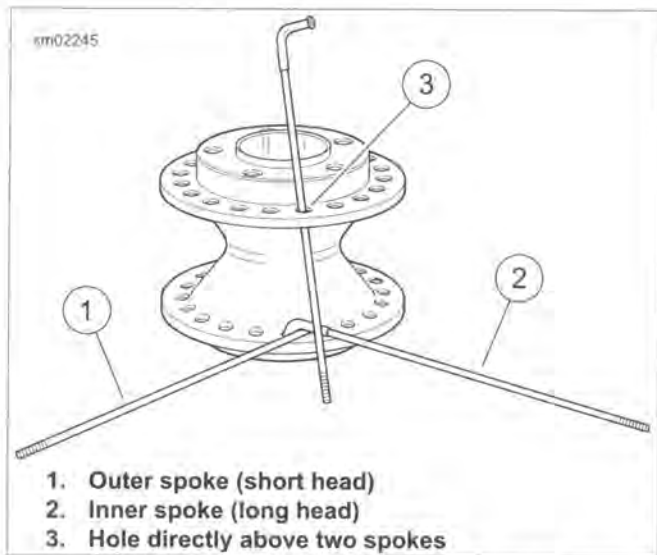
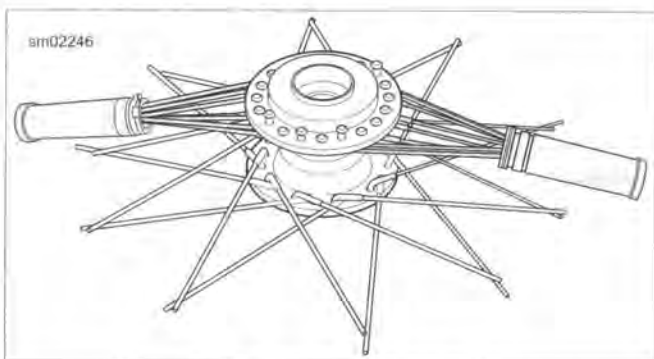
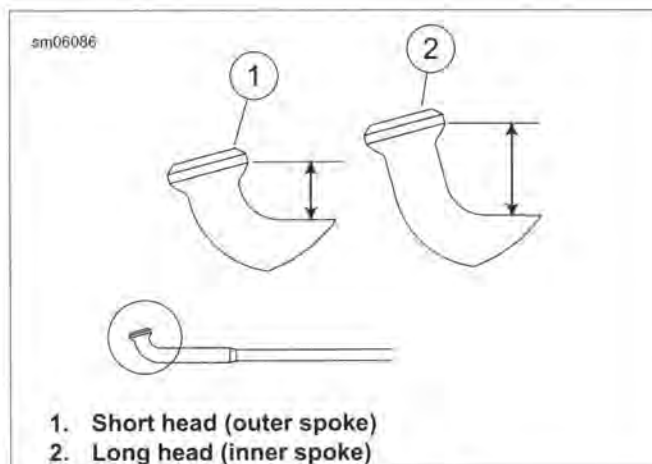
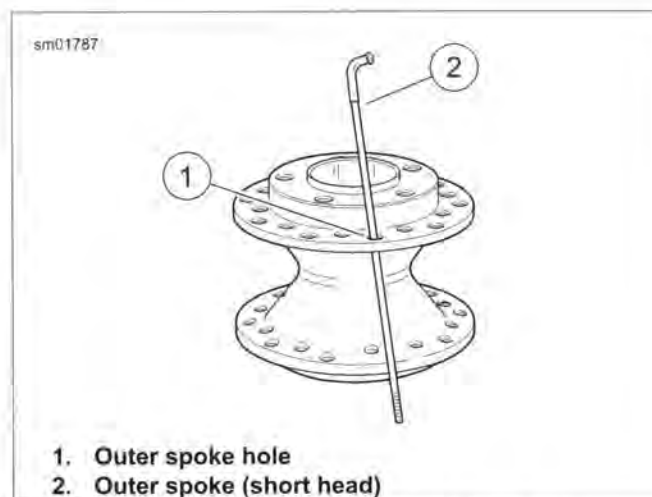

Figure 2-30. Lacing Single Row Wheel Hub
Figure 2-31. Bundling Top Spokes
Figure 2-34. Spoke Heads
Figure 2-35. Lacing Dual Row Wheel Hub
- See Figure 2-30. This procedure is valid for laced wheels that use a straight flange, single spoke hole circle hub regardless of rim style or diameter.
1. See Figure 2-34. Divide spokes into inner and outer groups.
- a. Inner spokes (2) have long heads.
- b. Outer spokes (1) have short heads.
3. See Figure 2-30. Place hub on bench with the primary brake disc side up. Insert one outer spoke (1) (short head) into any bottom flange hole and swing it clockwise. Insert an inner spoke (2) (long head) in the next hole counterclockwise from the outer spoke. Swing the inner spoke counterclockwise over the outer spoke.
4. Find the hole (3) in the upper flange directly above the two spokes and insert a long head inner spoke. Insert all remaining spokes in the upper flange, alternating the inner and outer spokes.
6. See Figure 2-31. Group all spokes on the upper flange into two bundles of equal numbers and secure each group with throttle grips.
- See Figure 2-35. This procedure is valid for 40-spoke wheels that use a straight flange, dual spoke hole circle hub regardless of rim style or diameter.
- a. See Figure 2-35. Insert one outer spoke (short head) into any upper flange outer hole. Swing it counterclockwise.